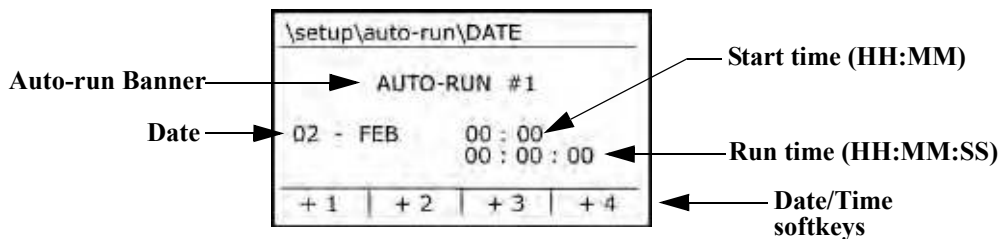

Figure 4–3: DLX Date Setup display
3. If you're using a **DLX** model, press any of the numbered Date/Time softkeys. For all other models, press the softkey labeled 1. If the key label is preceded by a negative sign (disabled), press it again to enable that selection. The Date Setup display appears with the Auto-Run Banner highlighted (Figure 4–3).